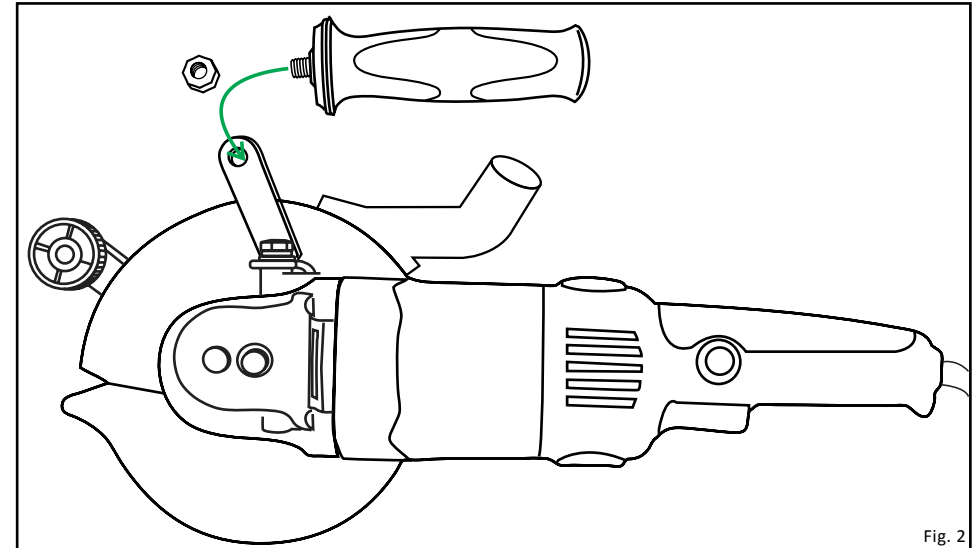

Fig. 2
- Screw handle into saw as shown in figure 2.